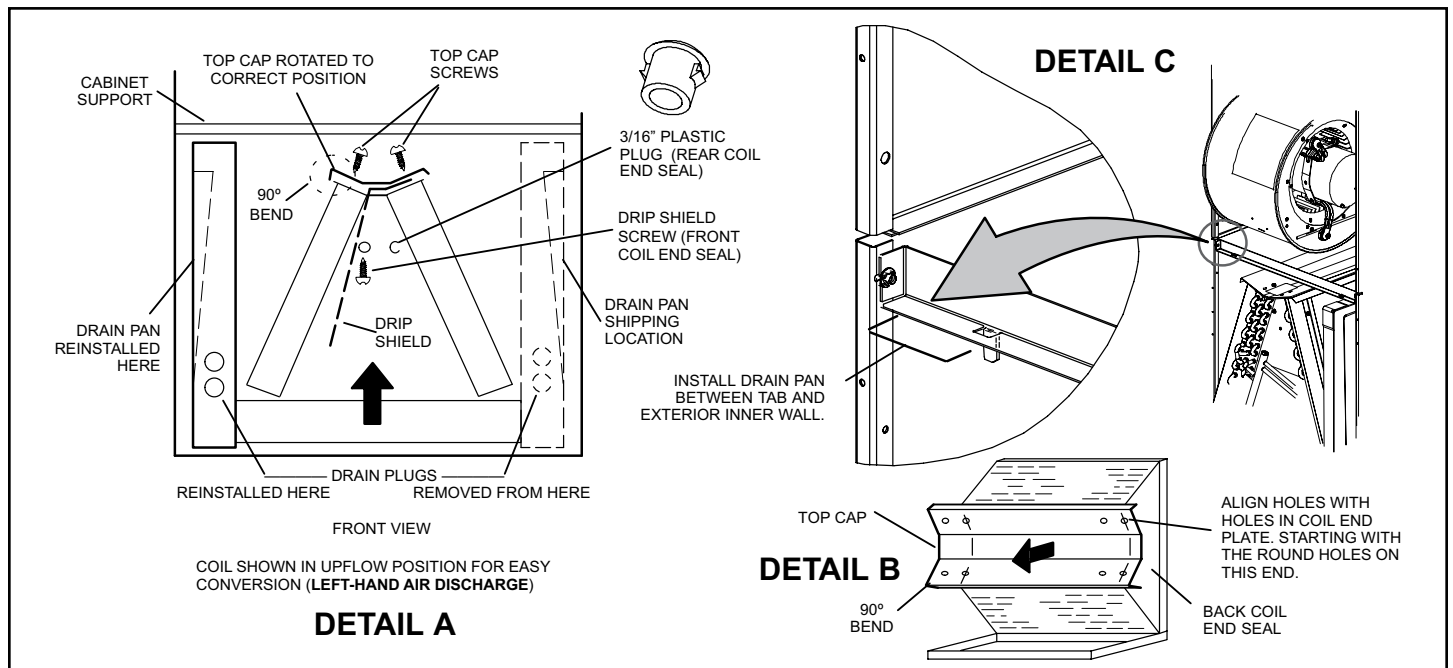
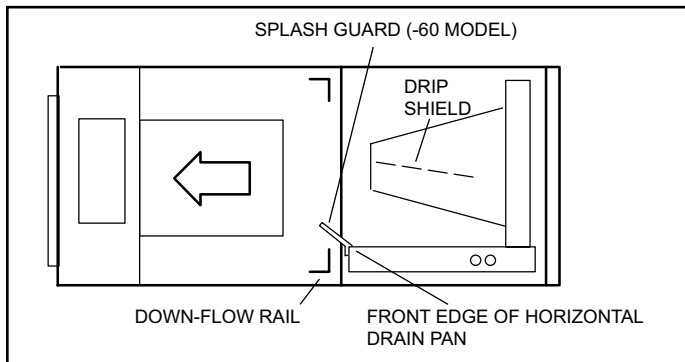

Figure 4. Field Modification for Left-Hand Discharge
Figure 5. Left-Hand Discharge Configuration
4. Remove screws from top cap. Remove horizontal drip shield screw located in the center of the back coil end seal as illustrated in Detail A in Figure 4.
7. From the upflow position, flip cabinet 90° to the left and set into place. Replace blower assembly. Secure coil in place by bending down the tab on the cabinet support rail as illustrated in Figure 4 and Figure 5.
8. Install the horizontal shield (BCE7S60 model) on the front edge of the horizontal drain pan as illustrated in Figure 5.